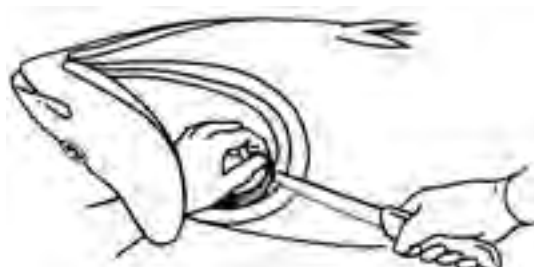

Fig. 24 Cut the membrane adhering to the gill collar
- Carefully cut the membrane attaching to the gill collar. With a knife, scrape the edge of the collar, until you get down to the white bone. (Fig 24). This membrane turns black if not removed, giving the fish an unhealthy appearance.